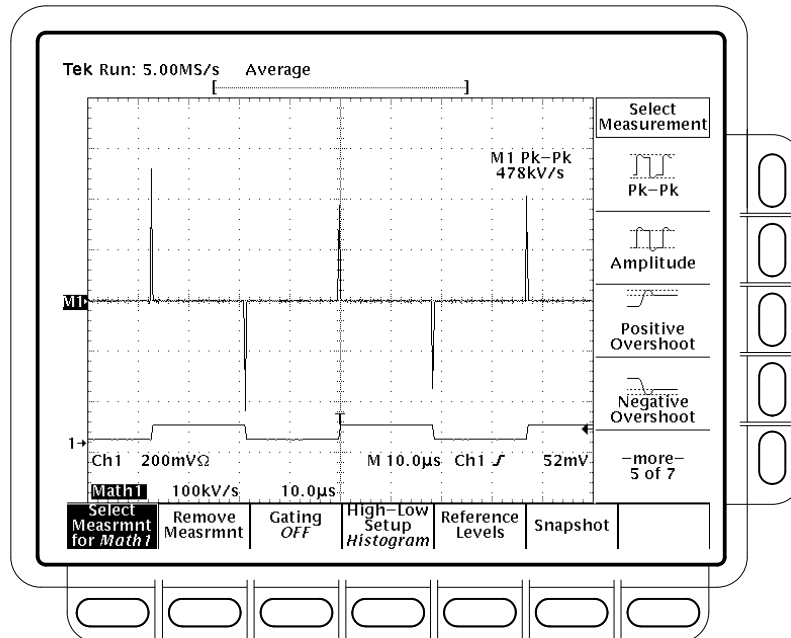

Figure 3-92: Peak-Peak Amplitude Measurement of a Derivative Waveform
3. Select up to four measurements in the side menu. (See Figure 3-92.)